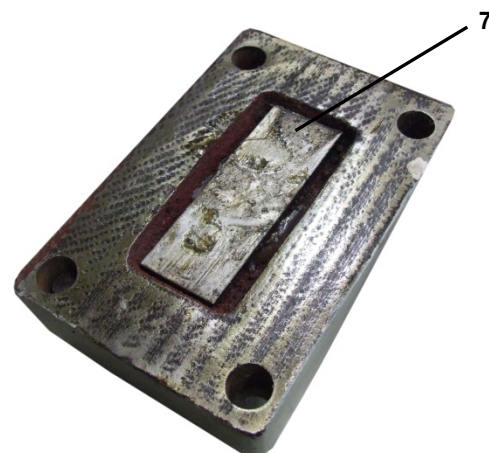

Figure 6-2
1. Bolts (A) can be used to control side play. When properly adjusted use the jam nuts to hold in place. **DO NOT OVERTIGHTEN.**
2. Bolts (B) are used to set pressure against the ram to accommodate your particular press application. (fig. 6-2) shows the cover plate removed revealing the pressure plate (#7). **Keep well-greased.**